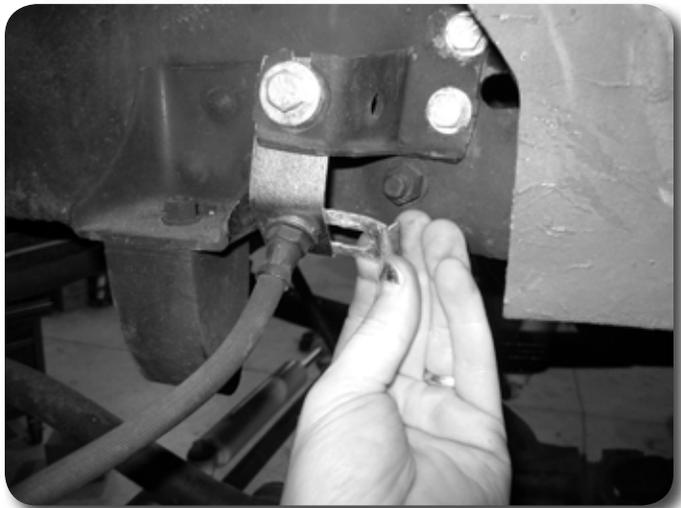

Figure 6
21. Locate the provided front brake line relocation brackets. Attach the brackets to the original hardline bracket on the frame. The new bracket will mount to the back face of the factory mount and bend inward toward the frame. Fasten with a 3/8" x 1" bolt, nut flat washer and lock washer. The flat washer will go over the large hole in the factory bracket. **Figure 6** Torque hardware to 30 ft-lbs.